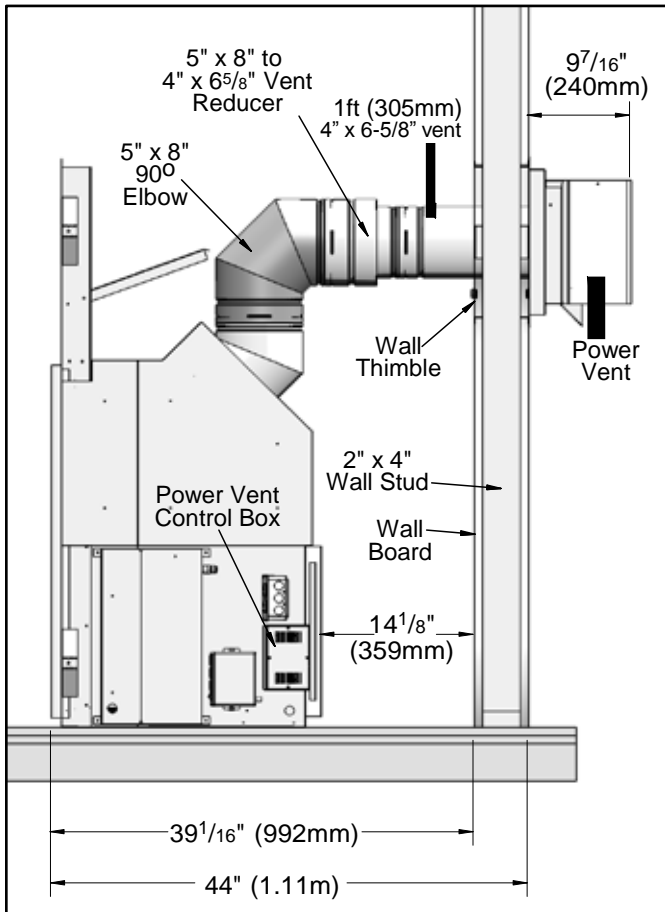

Figure 4 Typical overall dimensions with minimum horizontal vent installed.
- 50 feet (15.25m) of cable is supplied with this kit, if more venting is required, use 706-033 - 100 feet (30.5m) PVK CABLE and connect it as shown on the wiring diagram in Figure 4.
3. Using the dimensions in Figures 4 & 5, frame an opening for the thimble of 14 1/2" x 14 1/2" (368mm x 368mm).